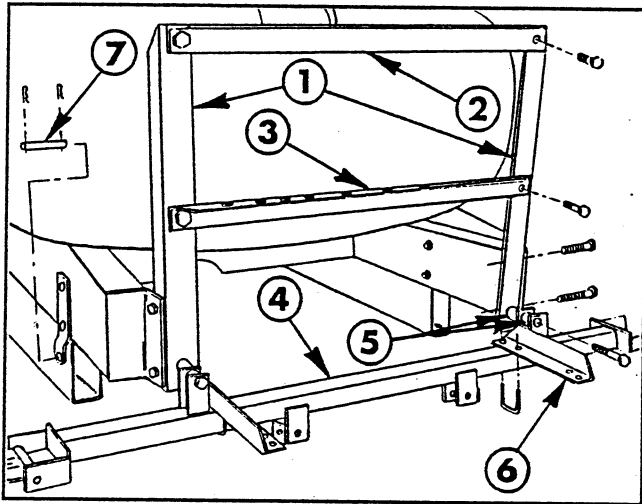

FIG. 12
33. Place the tank and saddle assembly on the vehicle frame. Secure it to the vehicle frame by sliding the (2) 3/4" dia. clevis pins through the rear mounting lugs and the vehicle frame. Secure by installing the (4) lynch pins into the clevis pins. See FIG. 12.
41. Attach the two boom mount upright angles onto the rear of the tank saddle extensions using (4) 1/2" x 1-1/4" hex hd. cap screws and locknuts (FIG. 12).
42. Position the lower cross support angle and attach it to the boom mount upright arms with (2) 1/2" x 1-1/4" hex hd. cap screws and locknuts (FIG. 12).
43. Position the upper cross support angle and attach it to the boom upright angles with (2) 1/2" x 1-1/4" hex hd. cap screws and locknuts. See FIG. 12.
44. Position the spacer tubes between the boom mount upright angles and the lugs on the main frame tube. Use (2) 1/2" x 4" hex hd. cap screws and locknuts to secure the main frame tube to the uprights (FIG. 12).
tube with (2) square U-bolts, (4) flatwashers, and (4) hex nuts (FIG. 12).